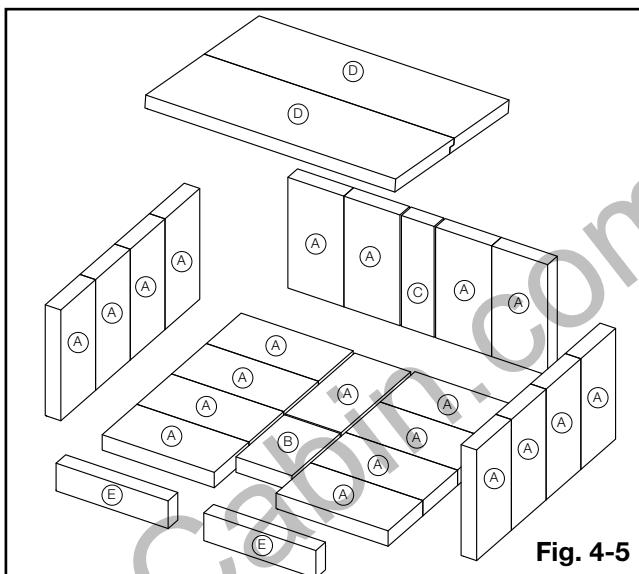

Fig. 4-5
With the appliance and chimney installation completed, move the bricks into place as illustrated below (**Fig. 4-5**).
- Install nine (A) bricks and one (B) brick along the bottom of the firebox, working from the back of the appliance forward.
- Install eight (A) bricks along the left and right sides of the appliance.
- Install four (A) bricks and one (C) brick along the back wall by pivoting the bricks up under the brick retainer.
Place brick (C) in the centre, with two (A) bricks on either side as illustrated (**Fig. 4-5**).